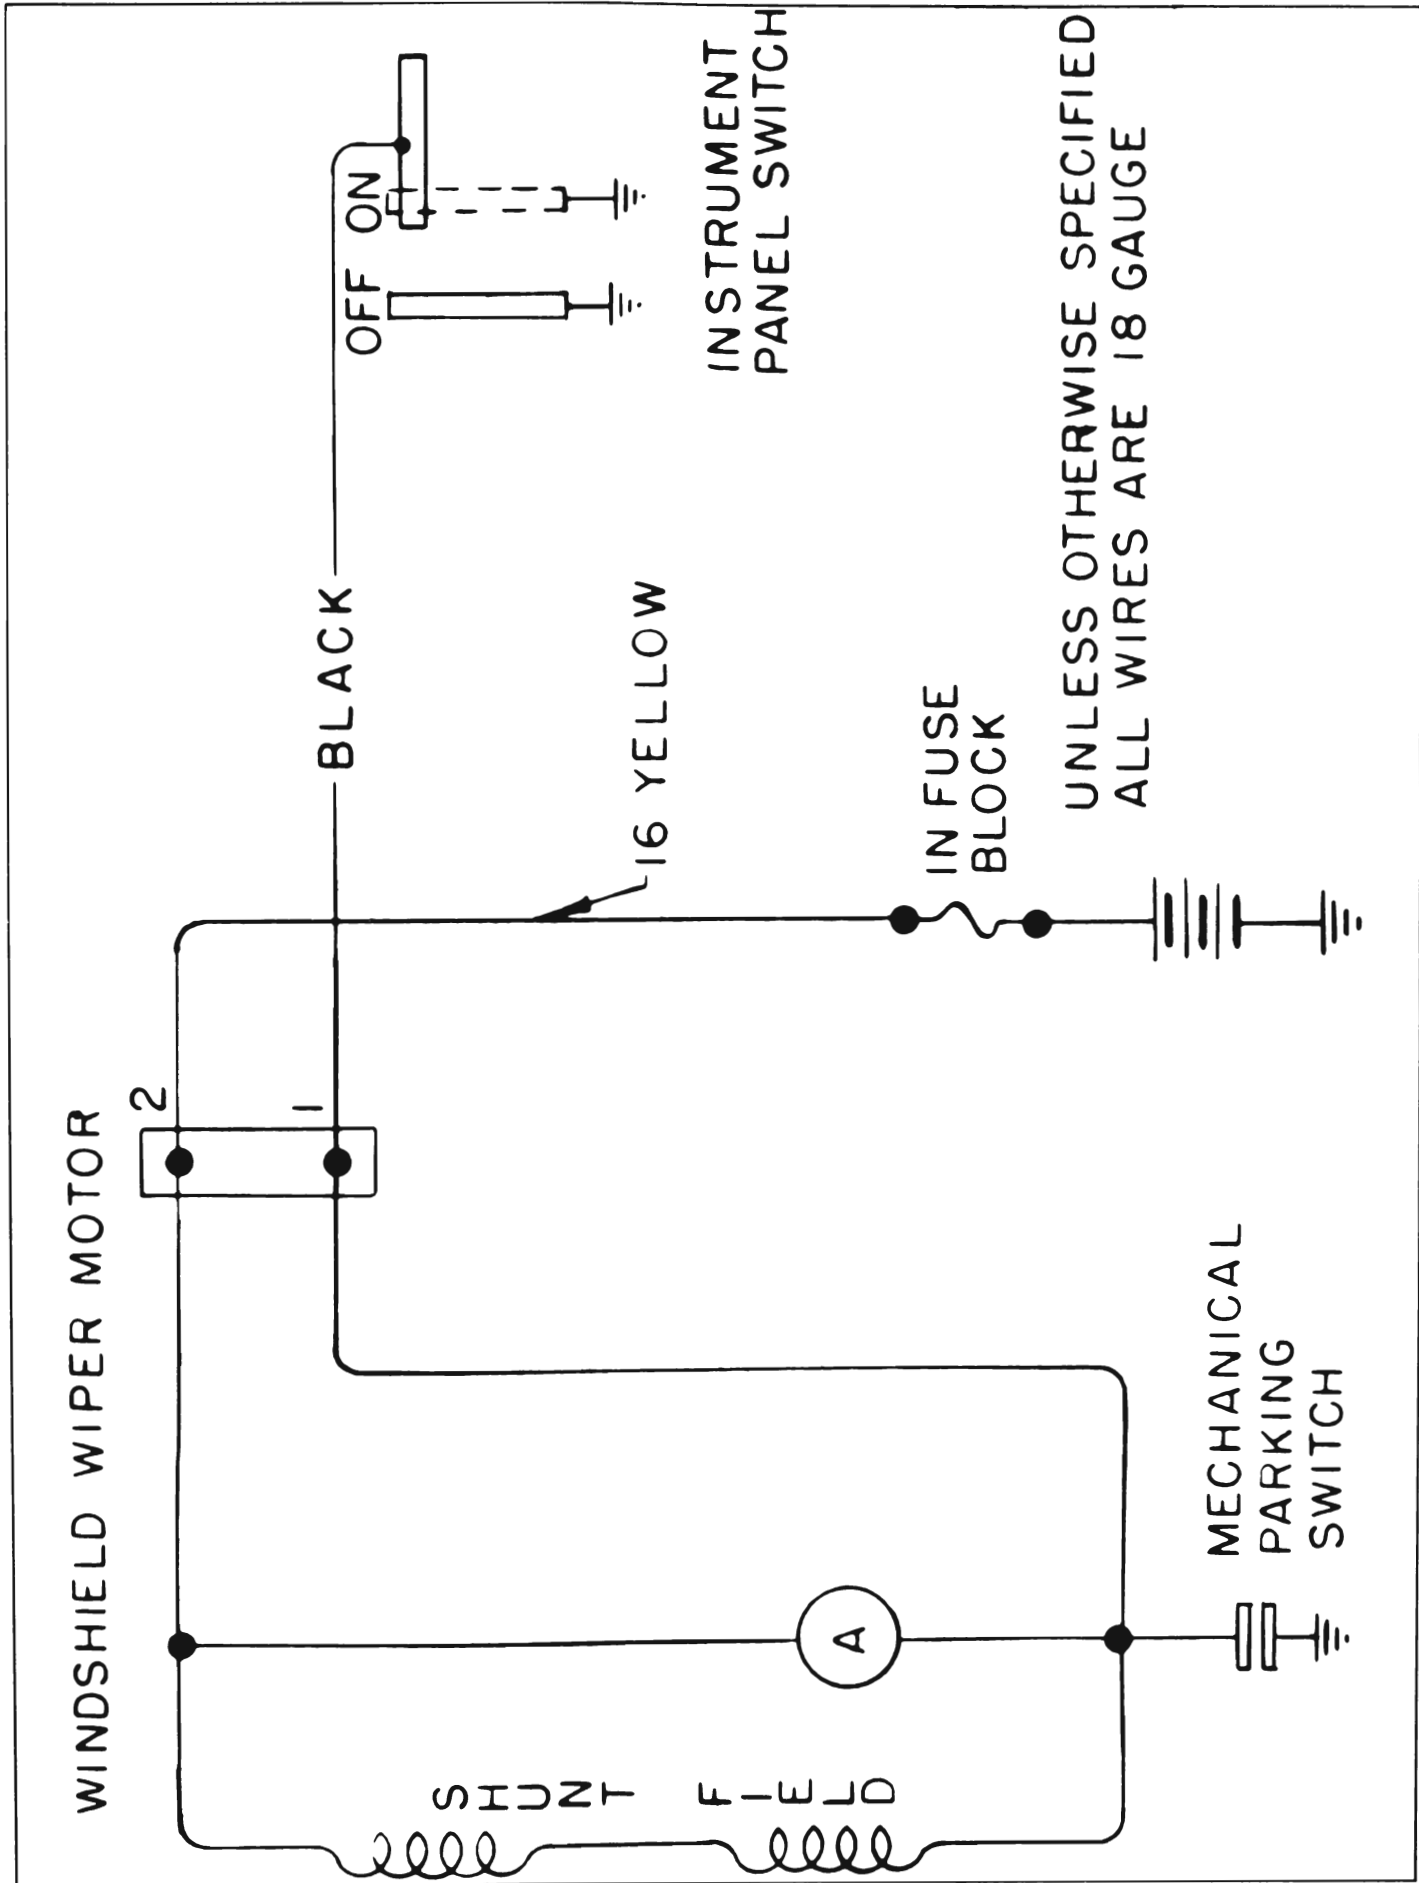
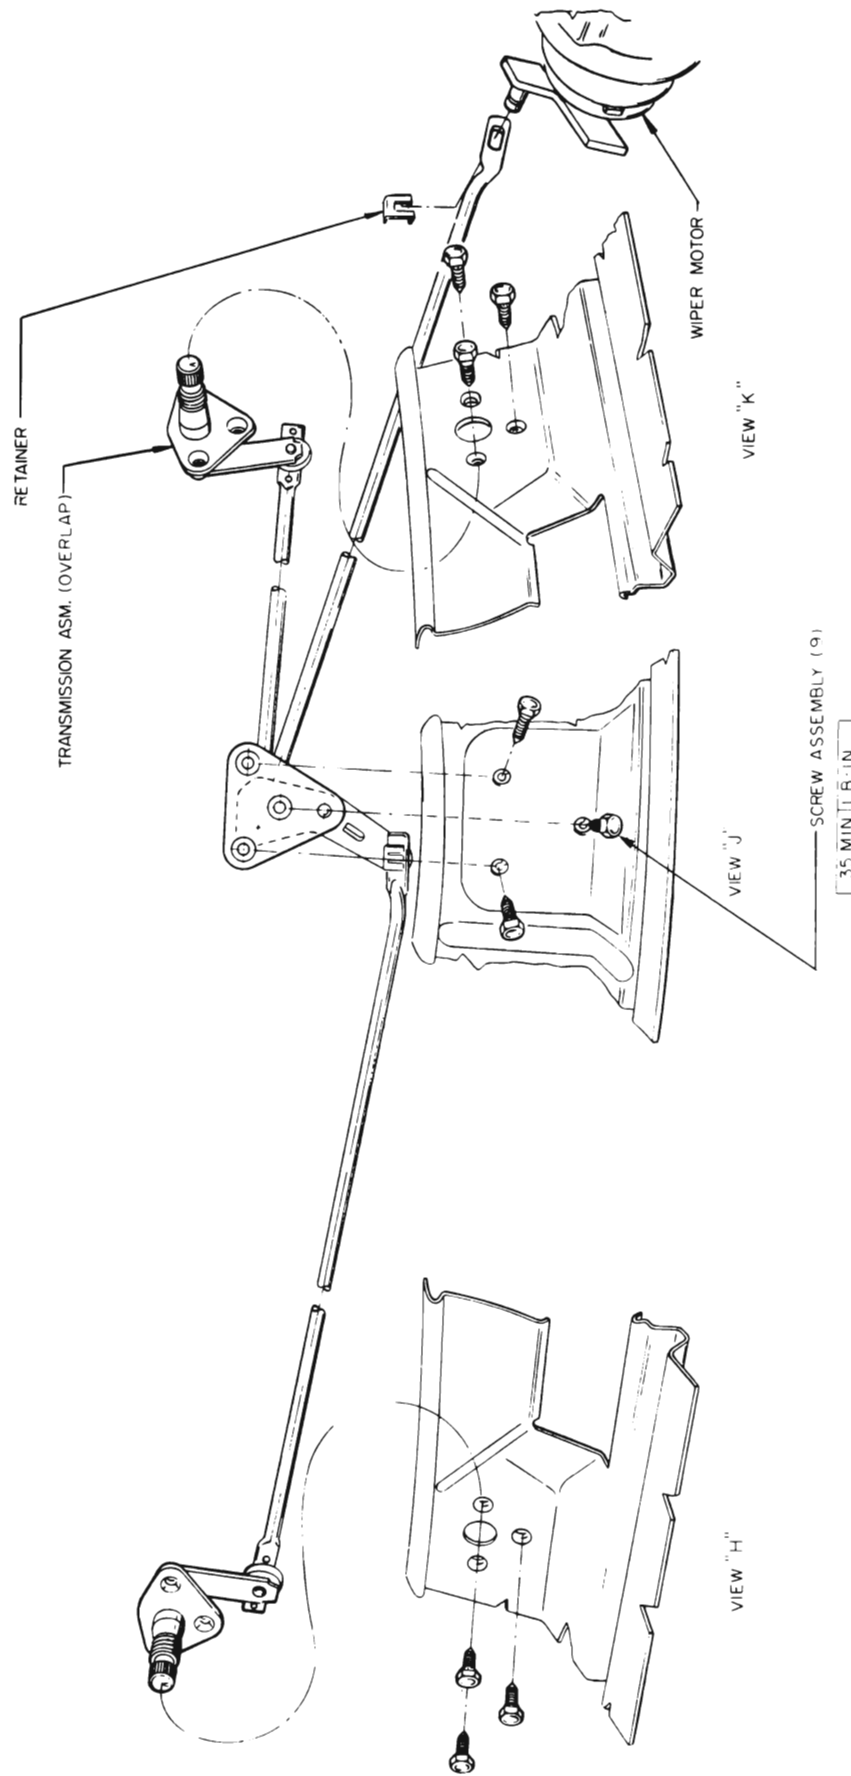

Figure 10-100—Windshield Wiper Schematic Diagram - Single Speed
Figure 10-102—Windshield Wiper Linkage Installation - Riviera
When the car owner shuts the wiper "off" at the dash switch, the motor circuit to ground is opened at the dash. However, the parking switch contacts, which are normally closed, maintain the motor circuit to ground at the wiper. This allows the wiper to keep operating until the blades or wiper crank arm reach the park position (Blades approx. 2" above windshield molding). (Figure 10-100 shows the crank arm in park position.) At the same time the blades reach the park position, a cam on the output gear opens the park switch contacts. This opens the motor circuit to ground, stopping the motor. Thus, the park switch actually controls wiper operation only during that short period of time, after the owner turns the wiper "off" at the dash switch but before the wiper has completely stopped.
Figure 10-102 shows the proper method of connecting jumper leads to the wiper so that it can be operated independently of the dash switch or car wiring for test purposes. (NOTE: Specification table at end of this section lists current draw data.)
Step (a) but wiper still fails to operate, disconnect wiring harness from wiper and check for 12 volts at harness terminal that connects to wiper terminal No. 2, Figure 10-102. No voltage indicates defective car wiring. **CAUTION: DO NOT connect hot line to No. 1 terminal.**
(c) Connect 12 volt supply to No. 2 wiper terminal and connect a jumper wire from terminal No. 1 to ground (Figure 10-102). If wiper operates, the dash switch or wiring between dash switch and wiper is defective.
wiper terminal No. 2 (Figure 10-102). **DO NOT** connect any jumper wire to terminal No. 1.
Connect a 12 volt supply and an ammeter to wiper as shown in Figure 10-102 and observe current draw and wiper operation.
Wiper crank arm fails to stop in park position when jumper wire is removed from wiper terminal No. 1 (Figure 10-102).
(b) Check for grounded condition in the internal motor lead that connects to terminal No. 1, Figure 10-102.
Wiper crank arm stops rotating immediately when jumper wire is disconnected from wiper terminal No. 1 (Figure 10-102). **NOTE:** Crank arm should continue to rotate until park position is reached (Figure 10-100).
2. Reassembly of Crank Arm - Operate wiper to park position (Figure 10-102) and install crank arm on output shaft in the position shown in Figure 10-100. Clamp crank in vise before securing the retaining nut.